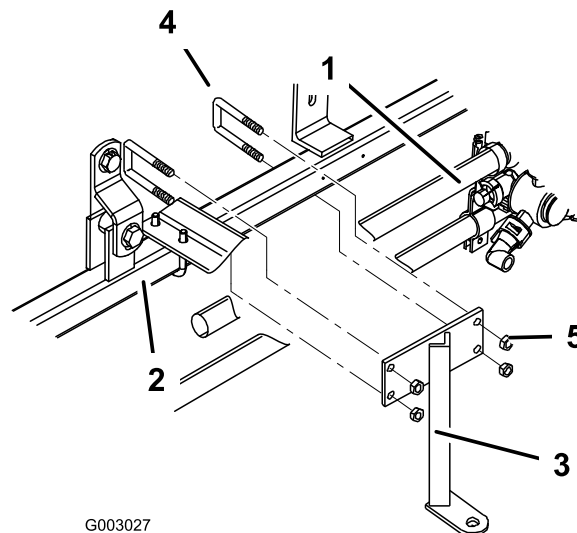

Figure 3
1. Install the universal tow hitch to the center boom using 2 U-bolts and 4 lock nuts (3/8 inch) as shown in (Figure 3).